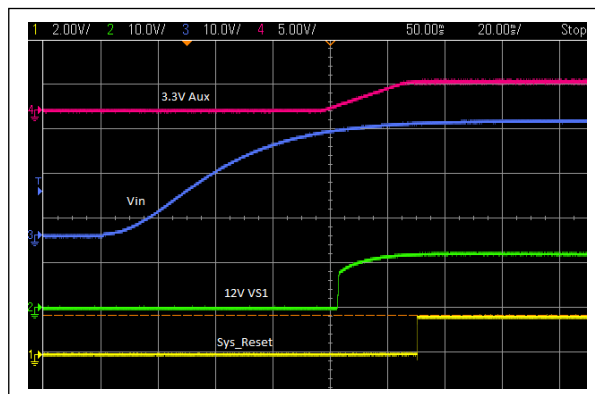

Figure 3
*SYSRESET** – Indicates that all Outputs are in or above their nominal range. Signal Normally Open. See Figure 3.